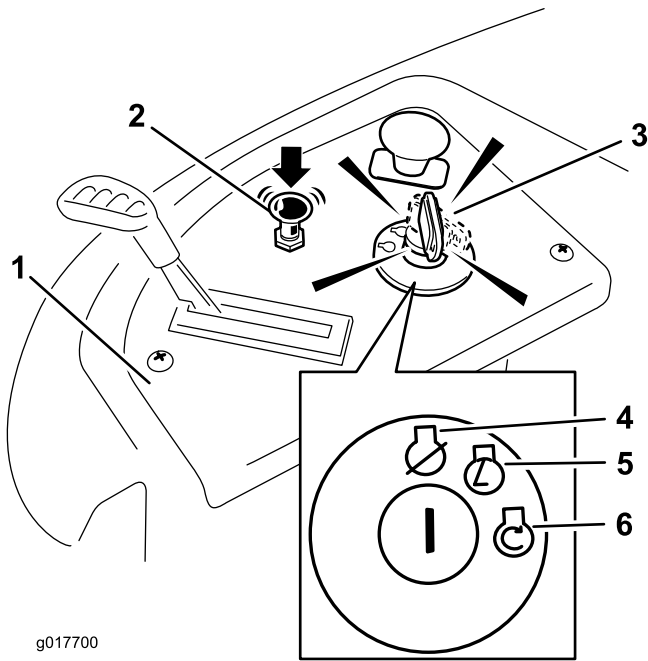

Figure 14
5. Turn the ignition key to Start to energize the starter. When the engine starts, release the key (Figure 14).
- After the engine starts, push down on the Choke control (Figure 14). If the engine stalls or hesitates, pull up on the Choke control and let the engine run for a few seconds. Then push down on the Choke control. Repeat this as required.
3. Turn the ignition key to Off (Figure 14) and remove the key.